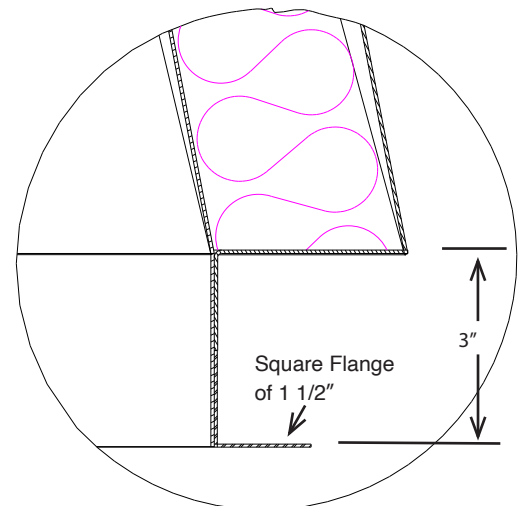

Figure 98b: Option 2 for the STR and ESTR
Option 2: A Flange at the square end to be used for a bolted or welded connection in accordance with NFPA 96. See Figure 98b.
- 2- Options for the square end (See Figure 98a and Figure 98b)